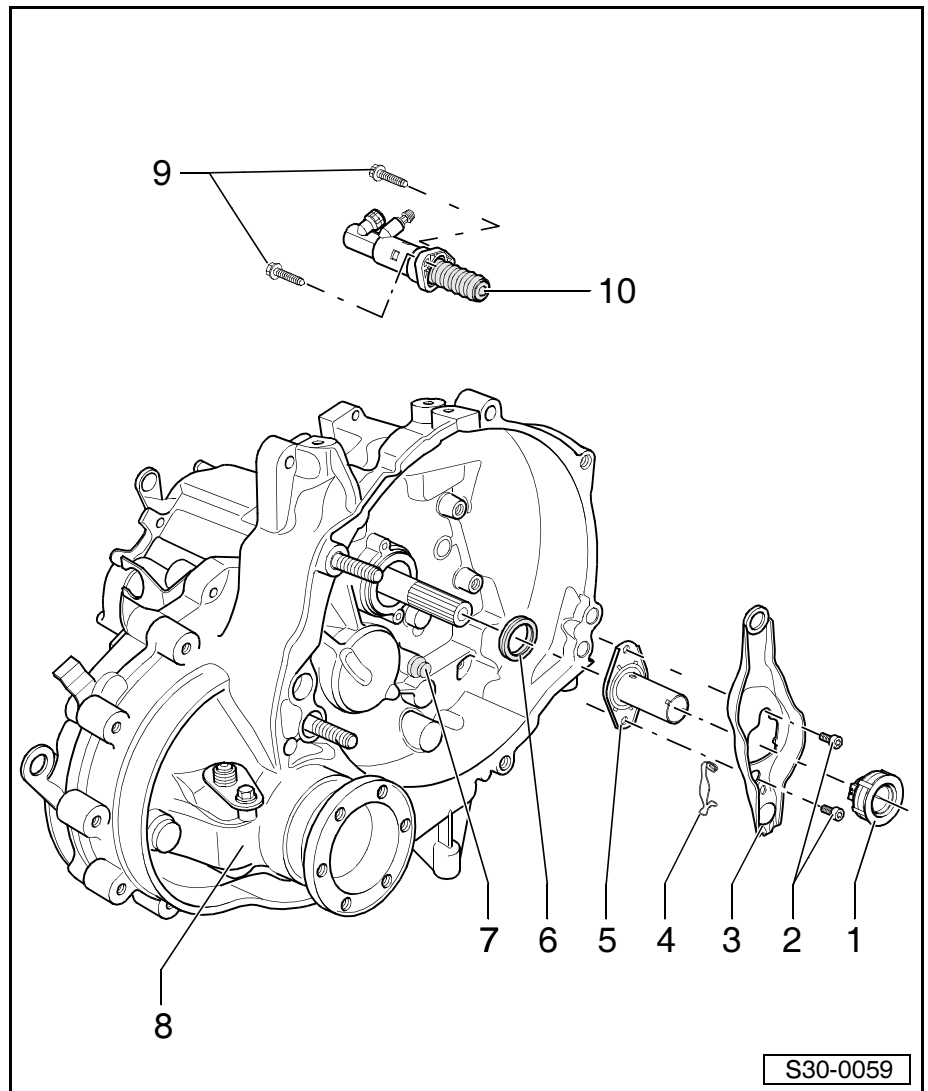

Fig. 1: Removing and installing the clutch release lever with the clutch release bearing and guide bushing for clutch release bearing
- remove and install ⇒ Fig. 1 in **30-2** page 2 ⇒ item 3 remove and install together with clutch release bearing and guide bushing ⇒ item 3